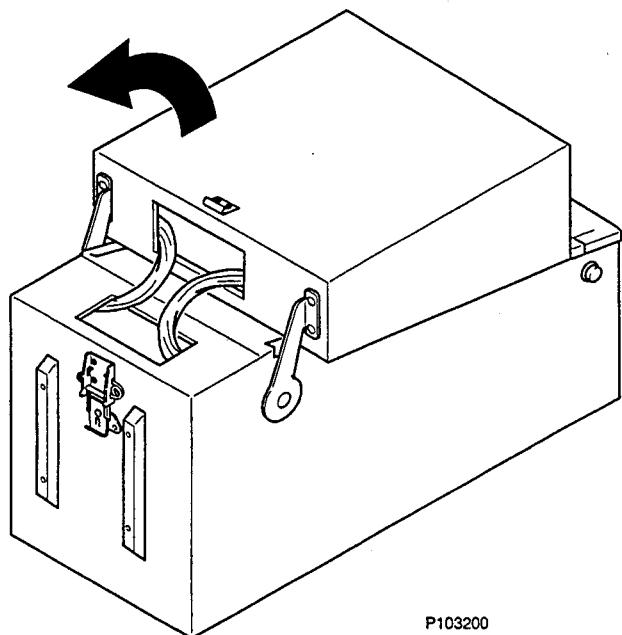

FIGURE 4: RAISING BACKBOX UPRIGHT
- 5) Raise the backbox to its upright position. Ensure that cables are not pinched (see Figure 4).